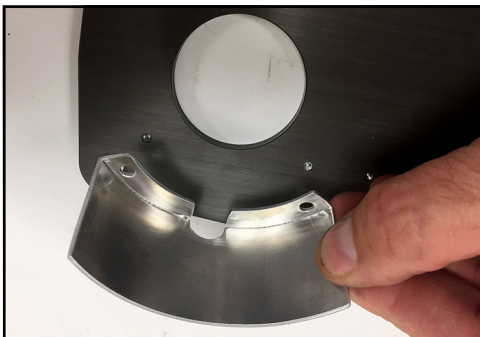

Figure 241 - Align screw holes
2. Align the holes in the left hand gear shroud (see note below) with the holes in the gear case cover as shown in Figure 241.